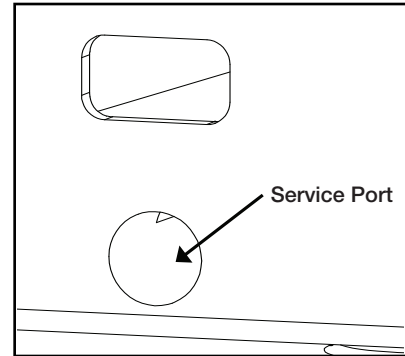

FIGURE 11
- With the TPA in the “pre-lock” position, insert the tip of the Service Tool into the service port for the terminal in be removed/replaced. Use care to be sure the service tool stays in the service port track (Figure 11).